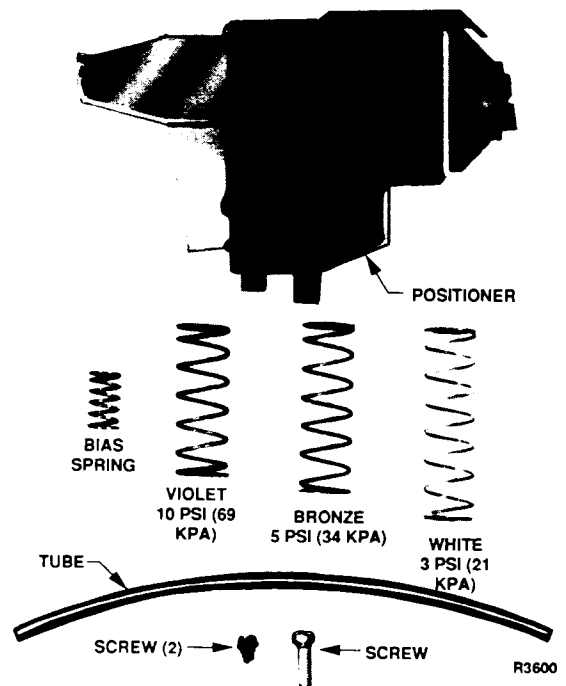

Fig. 1. Positive Positioner Retrofit Kit, Part No. 14004138-001.
Positive Positioner Retrofit Kit Part No. 14004138-001 (Fig. 1), is designed for replacing the old style Gradutrol Relay on the reverse acting MP953B Pneumatic Valve Actuators with the new style positive positioner that is on the MP953F models. Replacing the Gradutrol Relay with the positive positioner retrofit kit converts the MP953B to the equivalent of an MP953F.
4. If positioner calibration is off, recalibrate by adjusting the factory calibration screw (Fig. 1) found in the center of the knob.